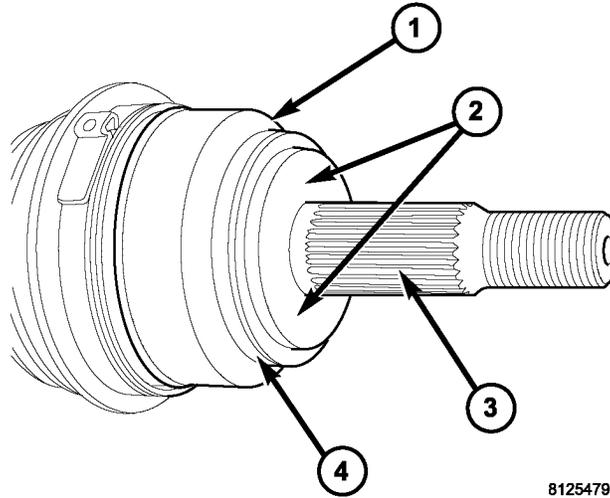

Fig. 4 OUTER C/V JOINT
15. Slide the gasket/washer p/n, 04809863AB, over the C/V joint splines to the C/V joint surface, item 2, shown in (Fig. 4).